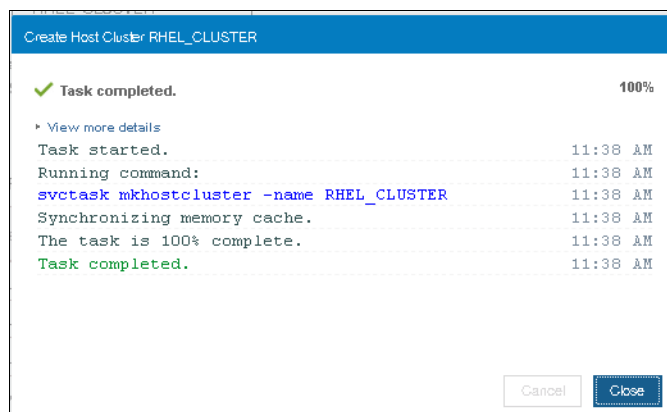

Figure 5-76 Host Cluster creation completed
- Click **Next** and you will see host cluster creation completion screen as shown in Figure 5-76.